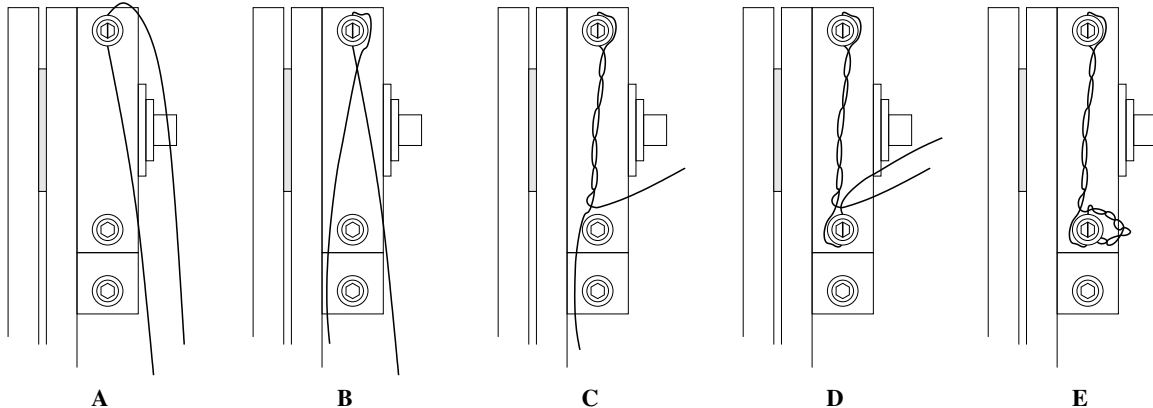
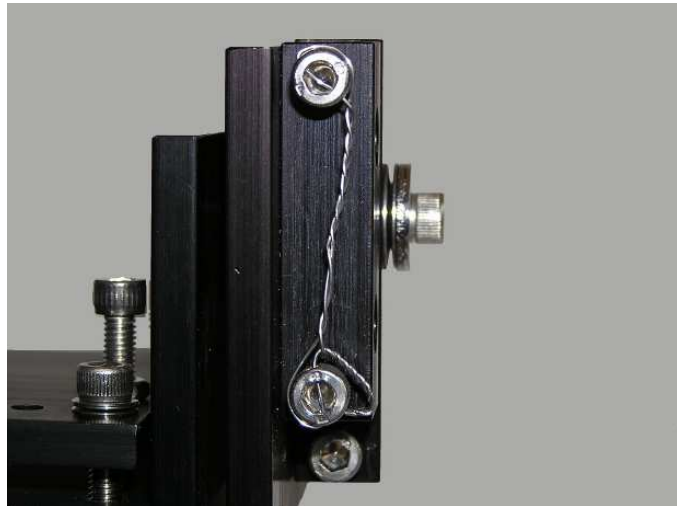

Figure 2-1. Steps in Lock Wiring of Tilt Position Screws
Figure 2-2. Tilt Position Screws with Lock Wire
- After each pair of Position Screws is set, thread a 7 inch length of Lock Wire through the two holes drilled in the head of one of the Position Screws, as shown in **Figure 2-1, A and B**.
- Twist the wires most of the way towards the other Position Screw. **Figure 2-1 C**.
- Dress the braid so one strand of the Lock Wire will oppose the loosening of the Position Screw, and thread it through the drilled Position Screw. **Figure 2-1 D**.
- Leaving about ½ inch of braid, cut the excess Lock Wire off. "Hide" the cut end, which is usually sharp, under the screw head. See **Figure 2-1 E** and **Figure 2-2**.